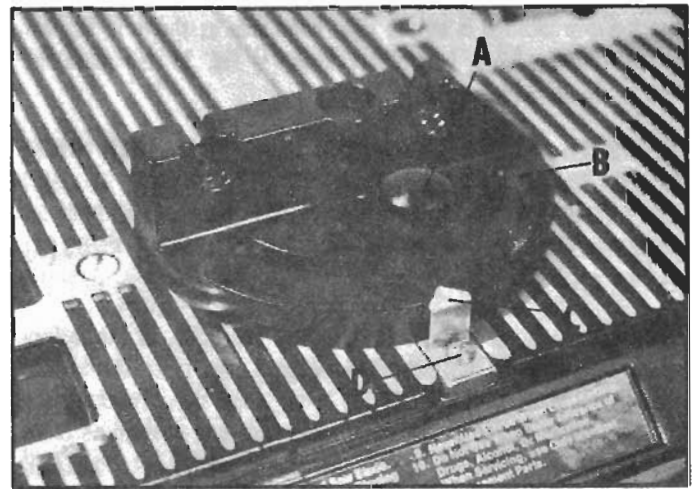

Fig. 30
2. The pointer (C) Fig. 30 should now read 90 degrees on the protractor scale on the miter gage body (B). If pointer (C) adjustment is required, loosen screw (D) Fig. 30, adjust pointer (C) and then retighten screw (D).
3. To operate the miter gage, simply loosen the clamp knob (A) Fig. 30 and move the miter body (B) to the desired angle as indicated by pointer (C). Clamp in position by tightening clamp knob (A).